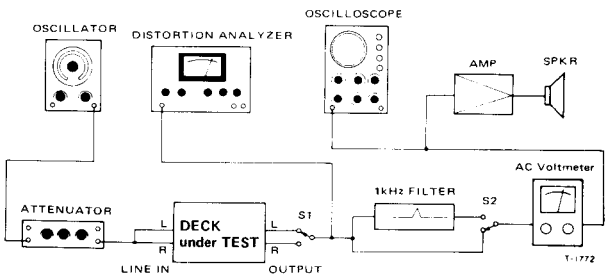

Fig. 5-1 Basic test setup
16. Erase efficiency	- Connection is same as in Fig. 5-1, but engage 1-kHz filter. - Record a 1-kHz signal. Rewind tape to midpoint of recorded portion. Record a "no signal" portion. Find the difference between the 1-kHz portion and the "no-signal" portion.
17. REC MUTE function	- Connection: Fig. 5-1, but engage 1-kHz filter. - Record a 1-kHz signal. Push REC MUTE button for several seconds. (At this time, make sure LED on the button lights). Rewind and play the tape. Find the difference between the 1-kHz portion and the "no-signal" portion.
18. Channel separation	- Connection Fig. 5-1, but do not connect LINE IN (R), and engage 1-kHz filter. - Set the deck to record mode. Find the difference between the 1-kHz recorded portion (L-ch) and the "no signal" portion (R-ch).
19. Adjacent track crosstalk	- Connection: Fig. 5-1, but do not connect LINE IN (L) and OUTPUT (L). - Record a 125-Hz signal on R-ch and note output level. Invert tape and play R-ch track. Check leakage level against the output reference of previously recorded portion.